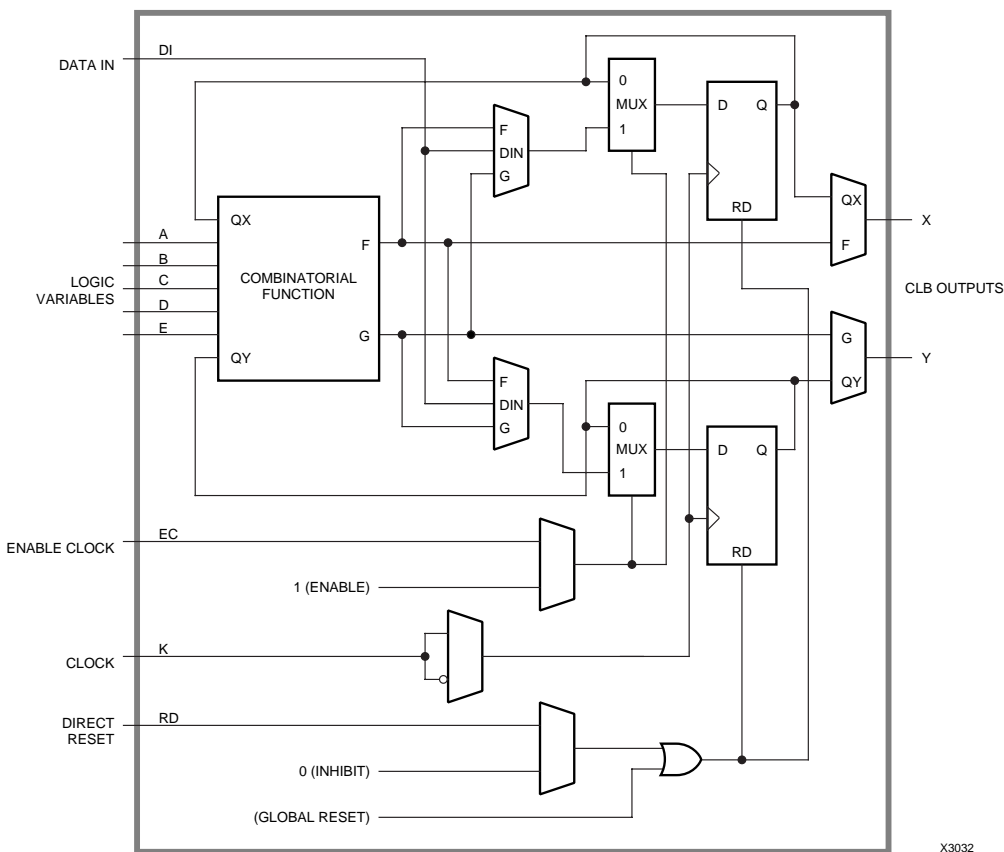

Figure 5: Configurable Logic Block.
Each CLB has a combinatorial logic section, two flip-flops, and an internal control section. See **Figure 5**. There are: five logic inputs (A, B, C, D and E); a common clock input (K); an asynchronous direct RESET input (RD); and an enable clock (EC). All may be driven from the interconnect